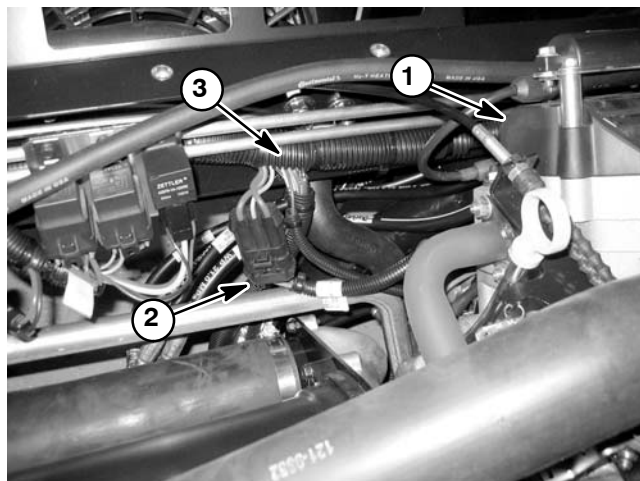

Figure 29
A Workman HDX Auto vehicle uses three (3) fusible links for circuit protection. These fusible links are located in a harness that connects the engine starter motor B+ terminal to the vehicle rear wire harness (Fig. 29). If any of these links should fail, current to the protected circuit will cease. Refer to electrical schematics and wire harness drawings in Chapter 9 – Electrical Drawings for additional fusible link information.